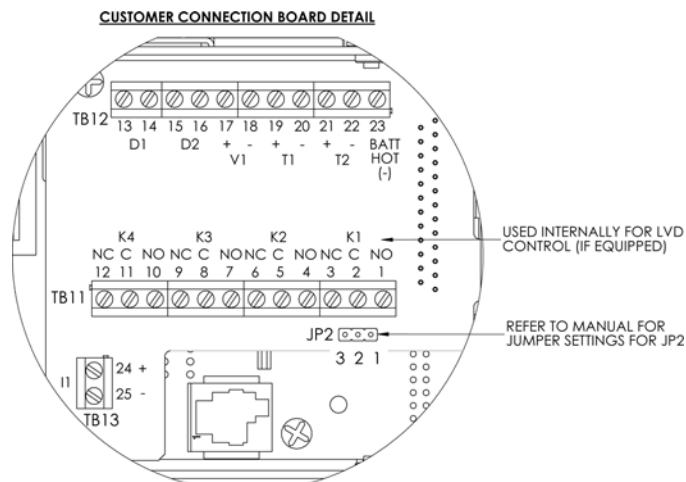

Figure 6—Showing location of LVD bypass jumper
5. Bypass system LVD as required; short the pins at JP2 (connections on the back of CXCI system shelf shown in Figure 6) to inhibit (or override) the LVD Control function. If the LVD is controlled on NC contacts (factory default for LVD option), then JP2 pins 1 and 2 must be shorted together to maintain LVD operation. If the LVD is controlled on NO contacts, then JP2 pins 2 and 3 must be shorted together.